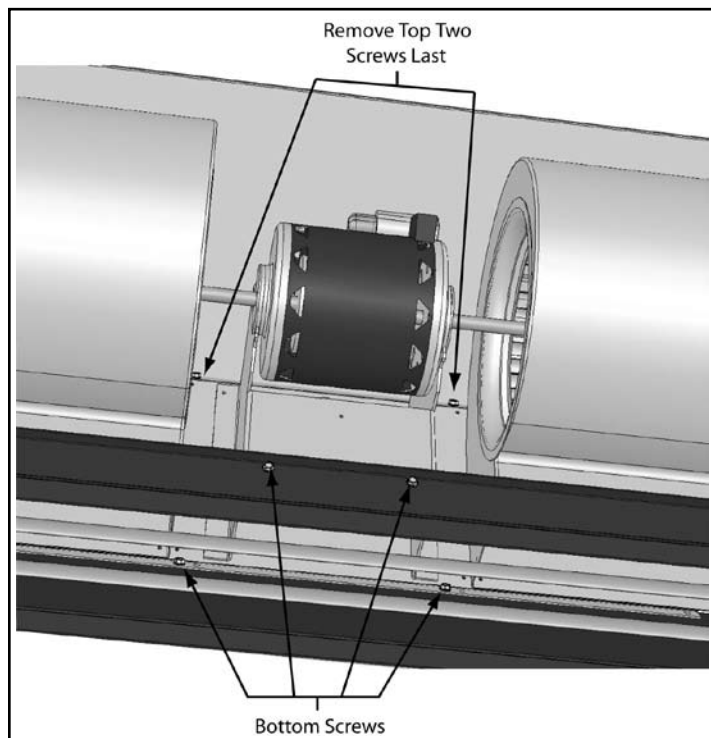

FIGURE 12 - Location of screws
5. Using a  $\frac{5}{16}$ " socket on a 12" extension, loosen and remove the (6) self drilling screws from the blower plate and transverse. Remove the two screws at the top of the product last, as after they are removed, the module will be free to drop out of the cabinet. **See Figure 12** for location of all screws.